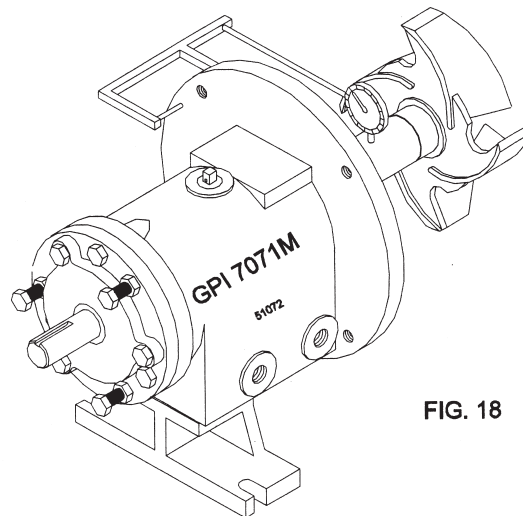

FIG. 18
3. Check shaft runout. Install shaft sleeve (16) and thread impeller (26) onto shaft. Hand tighten, then rotate impeller one turn. If reading varies more than .002 in. disassemble power frame and determine cause. Remove impeller and shaft sleeve. (Fig. 18)